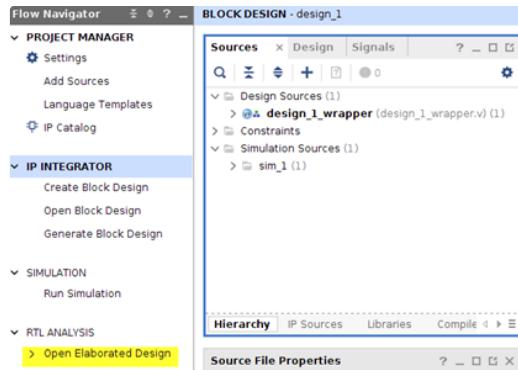

Figure 29: Open Elaborated Design
- When the wrapper is complete select "Open Elaborated Design" (Figure 29) in the Flow Navigator.